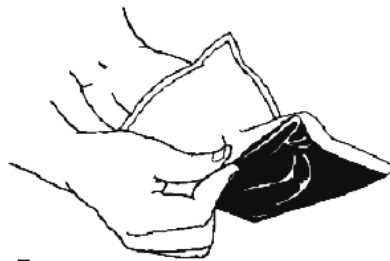

Figure 7
- 4.2 Firmly grasp each flat side of the closed mixing pouch near the center barrier; at the same time pull sides of barrier apart and roll sides of thumbs through barrier. Break the barrier all the way across to the side seals. (Figure 7)